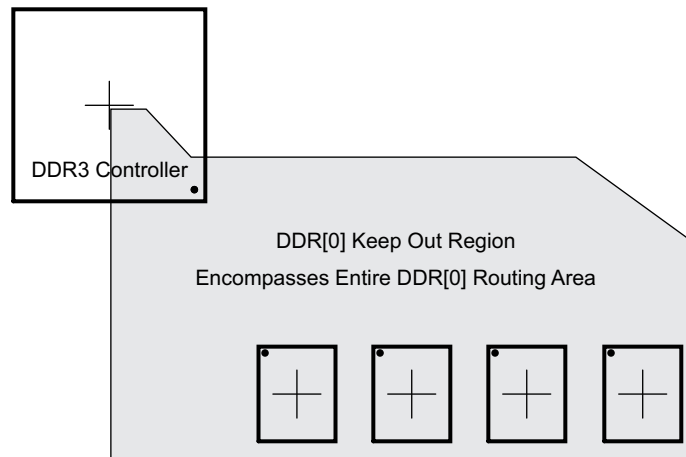

Figure 8-60. DDR3 Keepout Region
(2) Measurements from center of processor to center of DDR3 device.
(3) Minimizing X1 and Y improves timing margins.
(4) w is defined as the signal trace width.
(5) Non-DDR3 signals allowed within DDR3 keepout region provided they are separated from DDR3 routing layers by a ground plane.
The region of the PCB used for DDR3 circuitry must be isolated from other signals. The DDR3 keepout region is defined for this purpose and is shown in Figure 8-60. The size of this region varies with the placement and DDR routing. Additional clearances required for the keepout region are shown in Table 8-67. Non-DDR3 signals should not be routed on the DDR signal layers within the DDR3 keepout region. Non-DDR3 signals may be routed in the region, provided they are routed on layers separated from the DDR signal layers by a ground layer. No breaks should be allowed in the reference ground layers in this region. In addition, the 1.35-V/1.5-V DDR3L/DDR3 power plane should cover the entire keepout region. Also note that the DDR3 controller's signals should be separated from each other by the specification in item 5 (see Table 8-67 for item 5 specification).